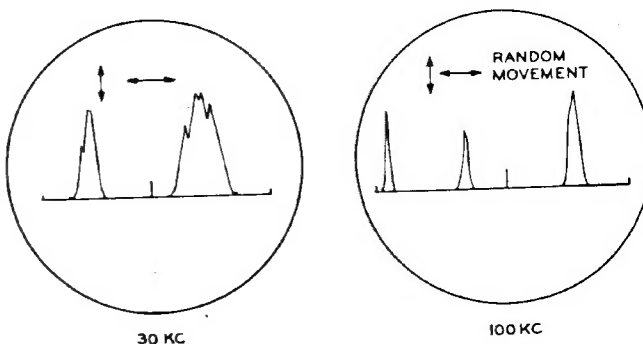

Figure 13
**Figure 13 - Random Noise:** This type of noise appears in numerous forms. Usually a noise pulse from electrical equipment, etc., is sharp and appears only briefly on the scope. A static burst is usually much wider, usually stationary on the screen, and lasts somewhat longer.